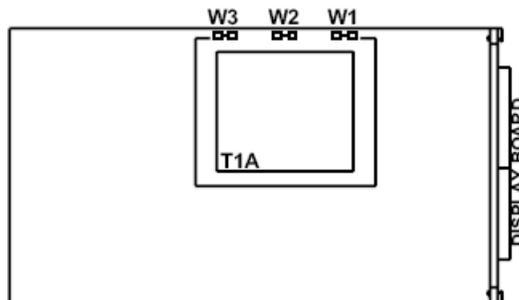

Figure 3-1 Main Board Power Jumpers
3.2 Main Board Power Jumpers (Refer To Figure 3-1)
Figure 3-1 shows the location of solder jumpers W1 through W3.